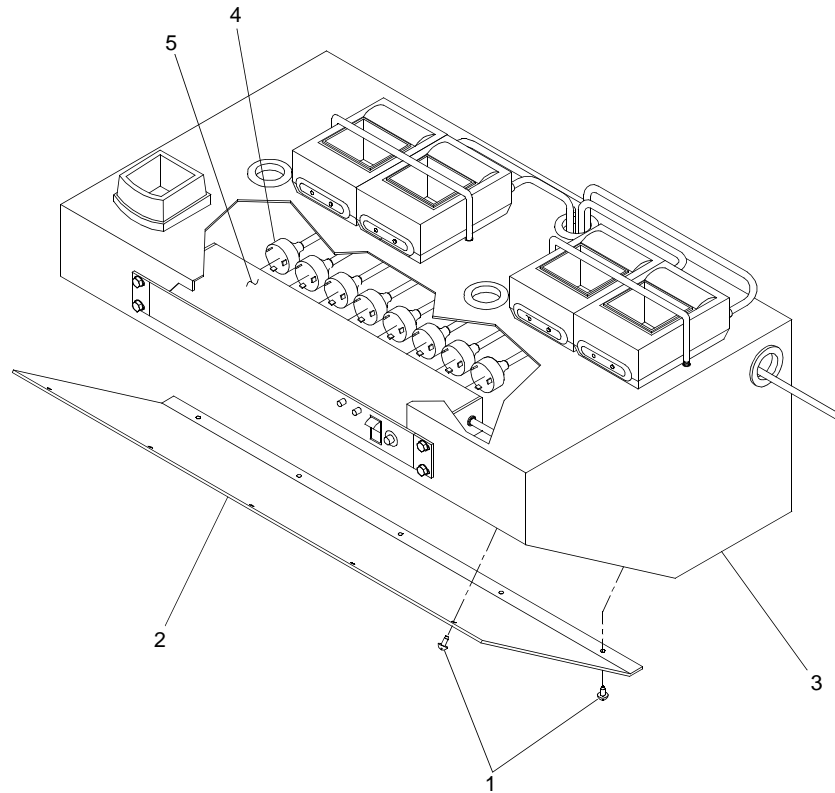

Figure 2. Battery Charger Shelf
2. Remove ten screws (figure 2, item 1) retaining cover (figure 2, item 2) to battery charger shelf (figure 2, item 3).
3. Remove cover (figure 2, item 2).
4. Disconnect battery charger electrical connectors (figure 2, item 4) from back of power strip (figure 2, item 5).
13. Position cover (figure 2, item 2) on the battery charger shelf (figure 2, item 3) and secure with ten screws (figure 2, item 1).